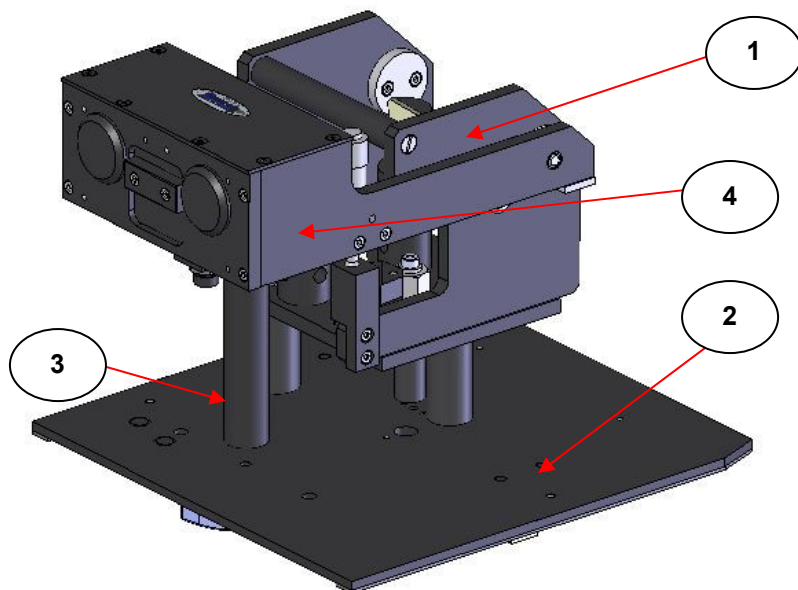
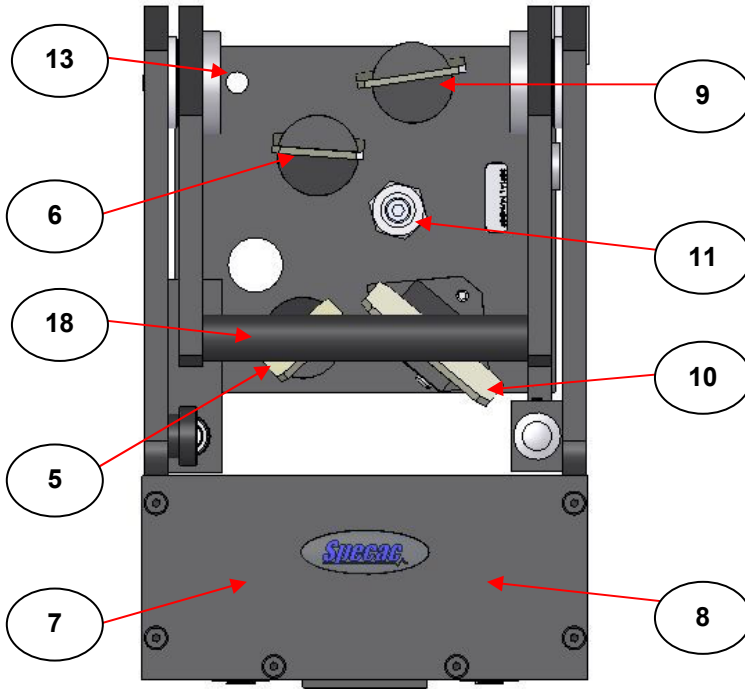
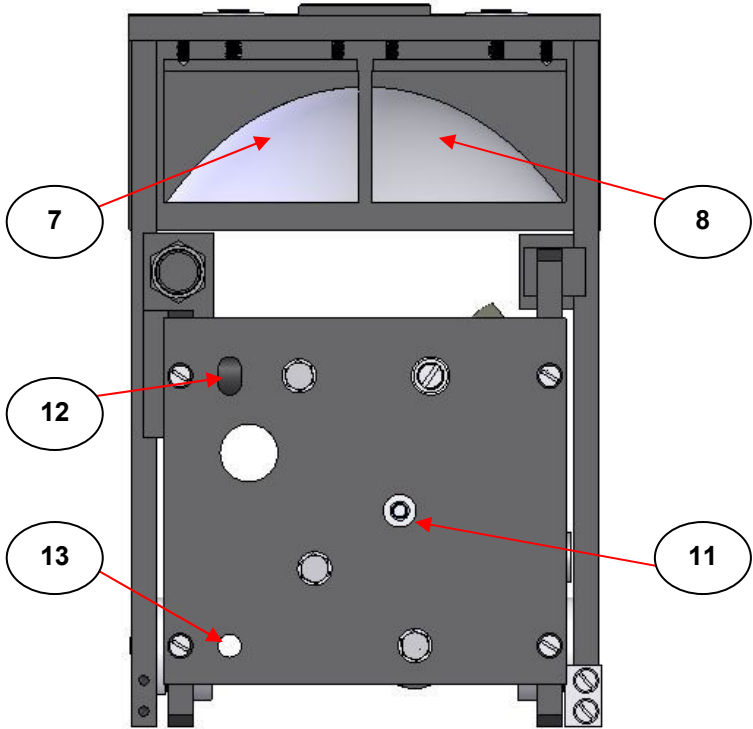
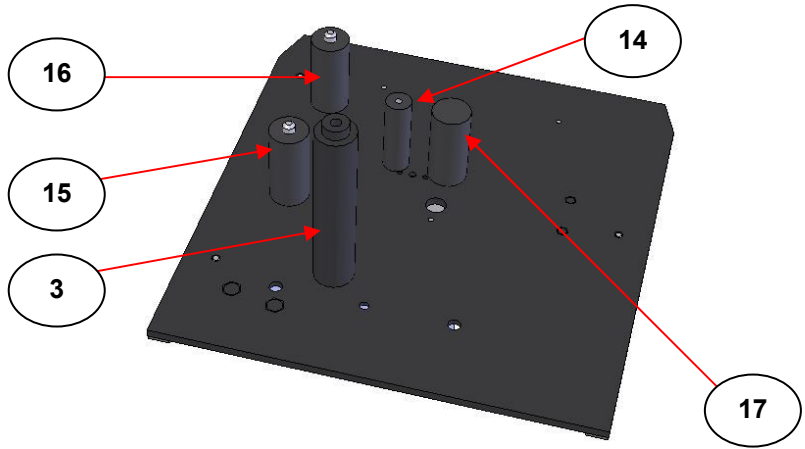

Fig 1. L to R Beam Selector™ Accessory Fitted to an appropriate L to R Beam Baseplate (e.g. for Perkin Elmer Spectrum One)
Fig 2. Top View of L to R Beam Selector™ Optical Unit
Fig 3. Underside View of L to R Selector™ Optical Unit
Fig 7. L to R Selector™ Baseplate (Perkin Elmer Spectrum One)
Fig 1 shows an **L to R** beam Selector™ optical unit (1) when fitted to its corresponding **L to R** Selector™ baseplate assembly (2) and in the **Operating Position**. In this case for Fig 1, the combination of the parts as shown forms the Selector™ accessory that can be used in a Perkin Elmer Spectrum One spectrometer.
Fig 2 shows a top view of an **L to R Selector™** optical unit alone and Fig 3 shows the same **L to R Selector™** optical unit but from the underside. From the Figs 2 and 3, the light beam sequence for passage of light through the Selector™ optical unit for an **L to R** direction is as follows:-
The light beam from the source is directed to a fixed angled mirror (5) on its mount post and onto another fixed angle mirror (6) on its mount post. The light beam is then projected to an **input** ellipsoid mirror E1 (7) which then focuses the light onto the surface area of a sample held in a cup that is positioned on top of the sample post (3) – see Fig 1. (In Fig 2 the E1 mirror (7) has been indicated, but it is positioned underneath the top cover of the ellipsoid mirrors arm assembly (4) – see Fig 1.) It is easier to see E1 (7) from the underside view of Fig 3.
In summary, the beam sequence for an **L to R Selector™** as indicated for the mirrors from **Figs 2 and 3** is:-
It can be seen by comparison of the build of Selector™ accessory that an **R to L** beam direction version is a reversed “mirror” image of an **L to R** beam direction version for positioning of the mirror components. On the Selector™ optical unit base (for both **L to R** and **R to L** versions) there is a central fixing M4 x 25mm captive screw (11). There is also a slot hole (12) and circular hole (13) on the Selector™ optical unit base. (See Figs 3 and 6.) From the combination of fixing screw (11) and location holes (12) and (13), an **L to R** or **R to L** Selector™ optical unit is fitted to its appropriate baseplate. Similar to the mirrors, the fixing hole positions on the Selector™ optical unit base and central fixing screw for attachment to the specific **L to R** or **R to L** baseplate are also in a reversed mirror image configuration.
For attachment of the Selector™ optical unit (1) to its baseplate (2) carefully lift the Selector™ optical unit by the lifting handle (18) - see Figs 2 and 5 - and position over the baseplate (2) – see Figs 7 and 8.